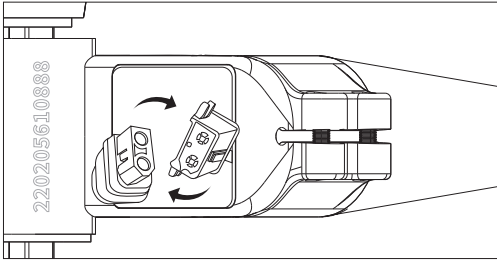

Figure 7-2
- b. Connect the cable between the battery and the controller, as shown in **Figure 7-2**.